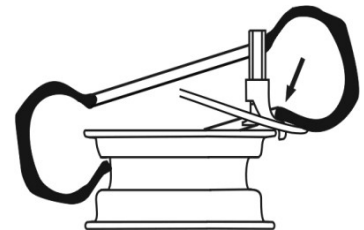

Fig. 20
- Repeat this operation for the other side of the tape (Fig.20).